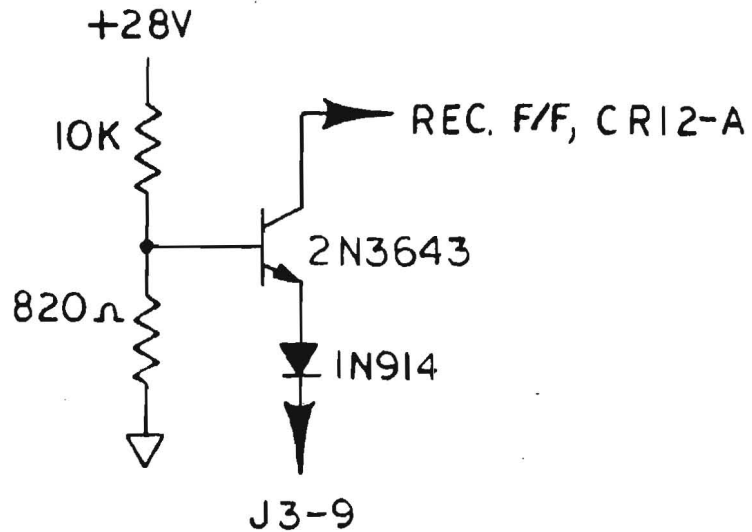
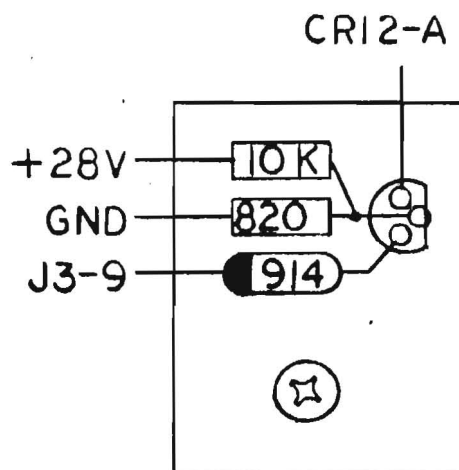

FIGURE 1
FIGURE 3
12. Add the circuit shown in Figure 1, below, to the Logic board.
- c. Fabricate circuit shown in Figure 1, above, on 3/4" x 1" perf board, using Figure 3, below, as a guide.